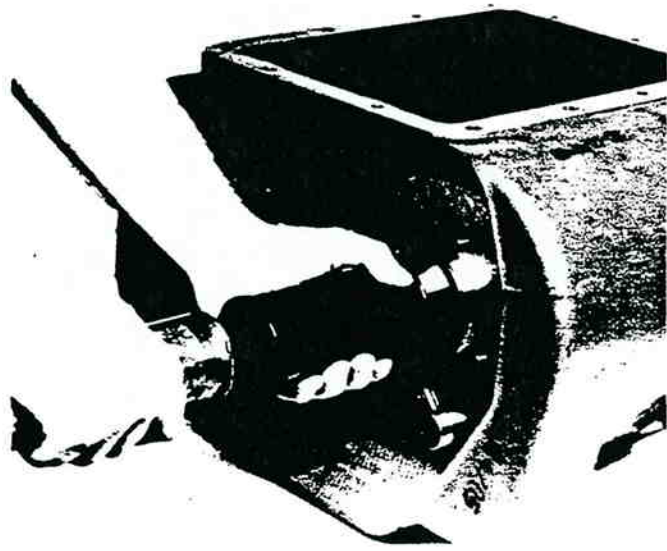

Figure 13-146. Rear Bearing Installation.
5. Remove countershaft support tool from rear case bore and install countershaft rear bearing with the larger I.D. lead chamfer toward front of transmission (figure 13-146).